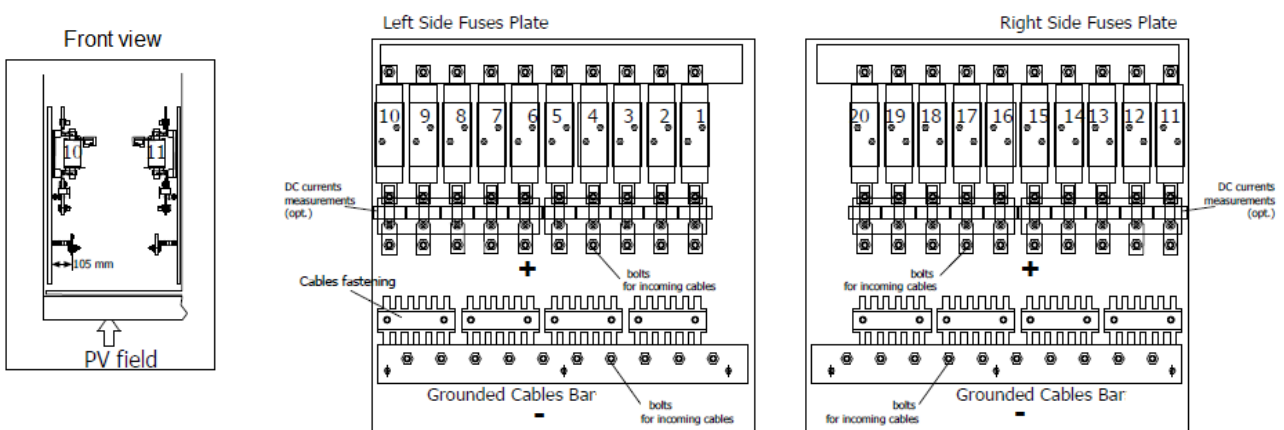
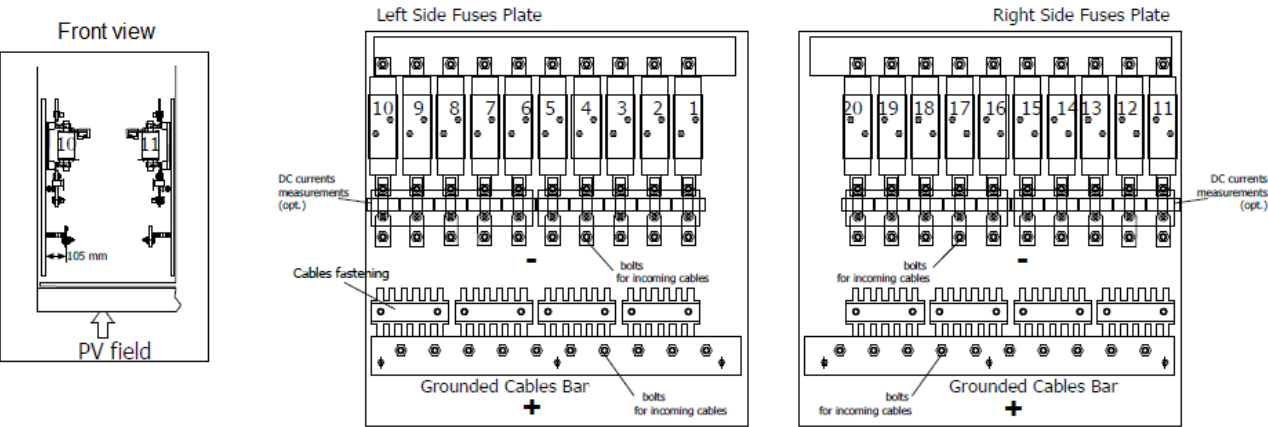

Figure 29: Configuration 4 of terminal board X2, PV field with negative grounded pole, 20 fuses on positive pole
Figure 30: Configuration 5 of terminal board X2, PV field with positive grounded pole, 20 fuses on negative pole
3. **Configuration 4 or 5** PV field with grounded positive or negative pole, 20 fuses on ungrounded pole, 1 cable per fuse (Figure 29 and Figure 30)